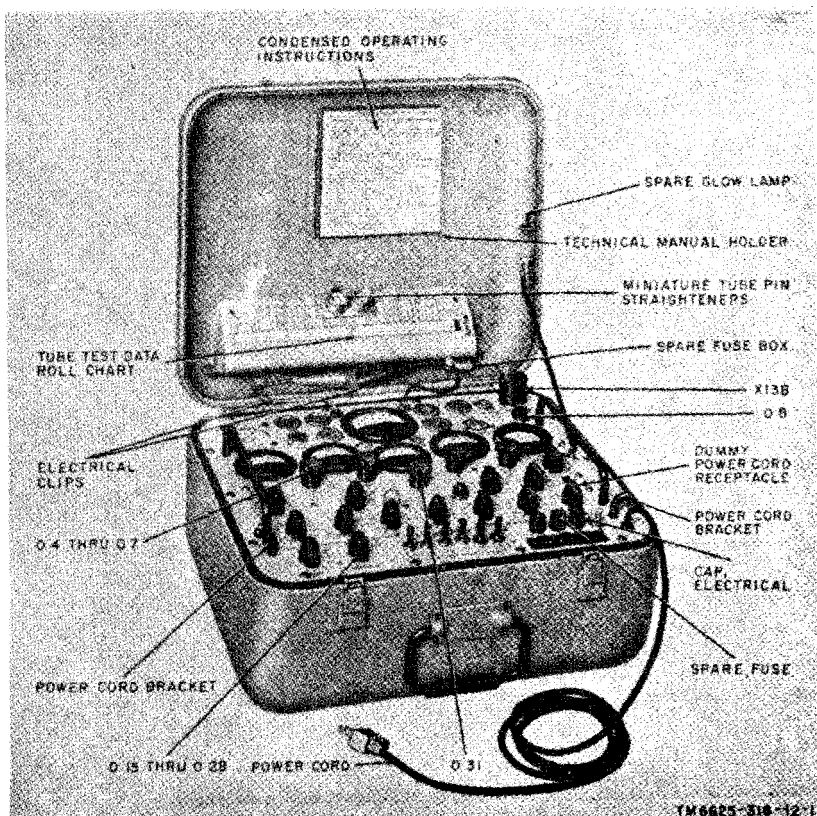

Figure 1. Test Set, Electron Tube TV-2(*)/U, less running spares.
a. This manual describes Test Sets, Electron Tube TV-2/U, TV-2A/U, and TV-2B/U (fig. 1) and covers operation and the operator's and organizational maintenance. It includes instructions for operation under usual conditions, for cleaning and inspection of the equipment, and for replacement of parts available to first and second echelon maintenance.
Test Set, Electron Tube TV-2(*)/U (fig. 1) is a portable tube tester of the dynamic mutual conductance type. It is used to test and to measure performance capabilities and to determine rejection limit for electron tubes used in receivers, low-powered transmitters, and other electronic equipment. The following tests can be made with the tube tester.